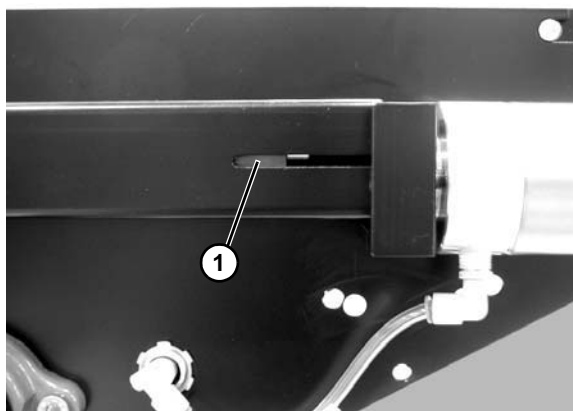

Figure 65
- If proper belt tension cannot be achieved before the out of tension indicator (**Figure 65, item 1**) begins to turn red, the belt must be replaced.
3. If proper belt tension cannot be achieved before the out of tension indicator (**Figure 65, item 1**) begins to turn red, the belt must be replaced.